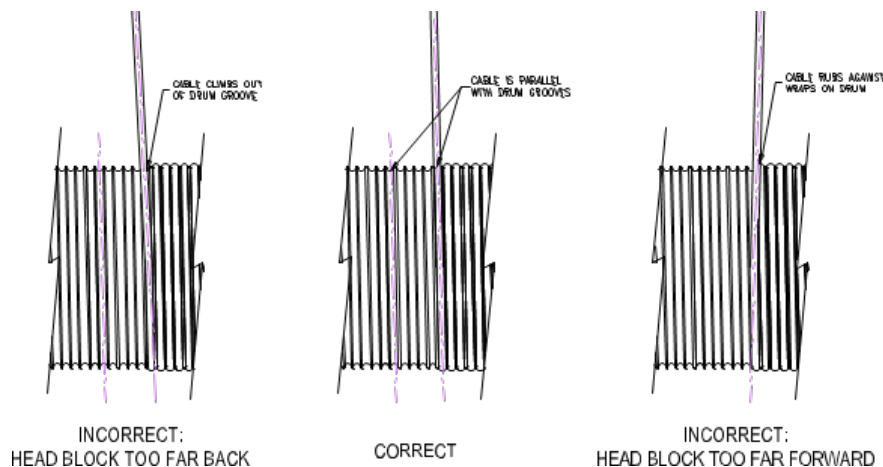

Figure 1: Inspecting the Fleet Angle at the Drum
3. Observe the machine while stationary. Inspect the fleet angle of the rope with respect to the drum grooves as seen in Figure 1. If fleet angle is not acceptable, dead wraps must be added or removed using the replacement procedure below.
- While pulling wire rope tight, check the fleet angle on the drum. See Figure 1.